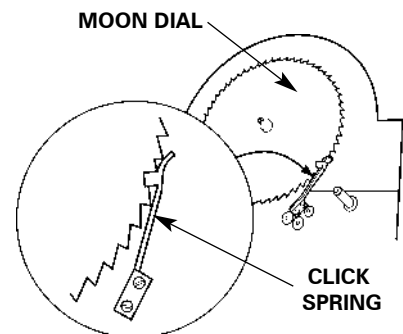

FIGURE 22
6. Is the click spring on the back of the dial in the correct position? (See Fig 22)
If you still are unable to rotate the moon dial, the click spring may be out of alignment. Not all moon dials use a click spring however you can quickly identify if your clock does. You can locate the click spring on the backside of the clock dial by looking through the side access panels, side hinged doors or through the removable back access panel. (See figure 22). Use your finger to pull the click spring approximately 1/2" back away from the saw tooth moon dial and then release. The click spring and dial should snap into proper alignment. If the click spring is in its proper location and you still feel resistance when trying to advance the moon dial **DO NOT FORCE IT.**